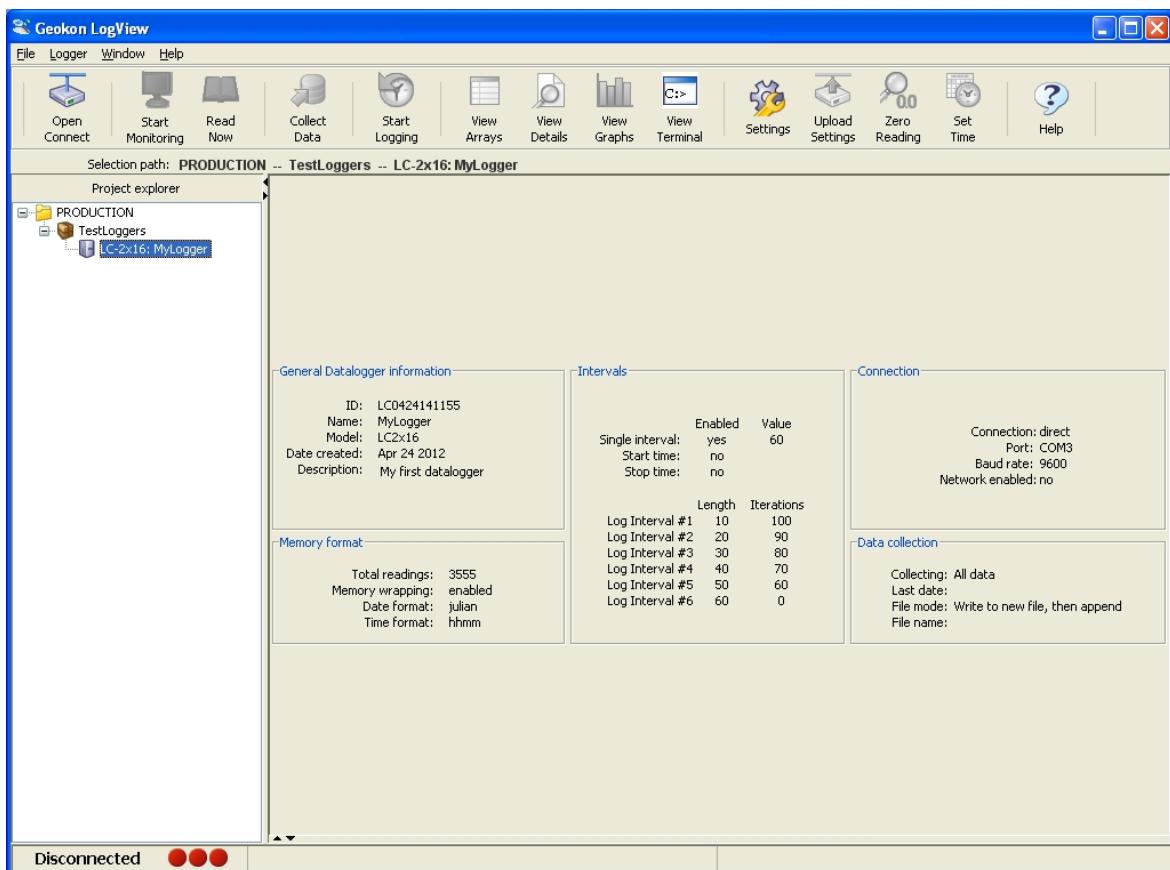

Figure 10 - Datalogger Highlighted - Not Connected
- 1) With a Datalogger profile configured and selected in the Project Explorer (see Figure 10), click on the “Open Connect” button on the LogView Toolbar.